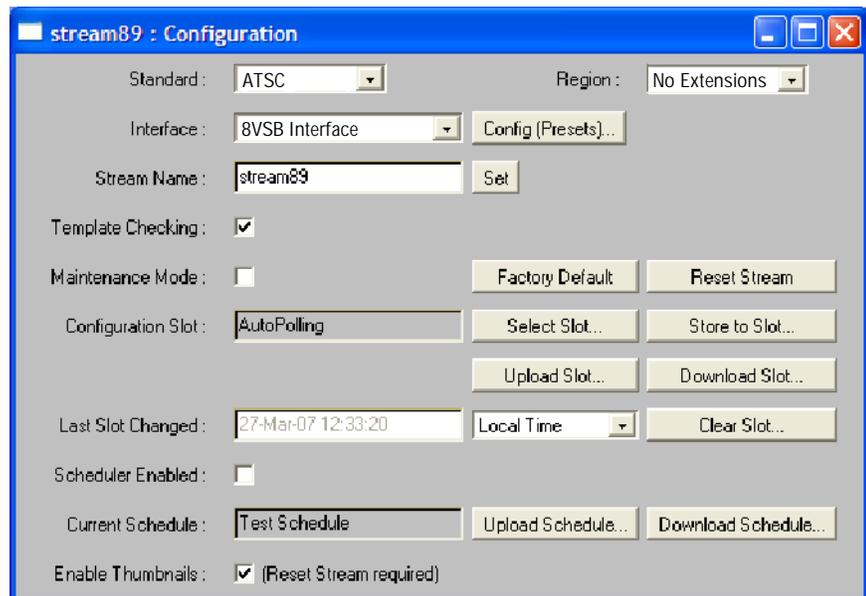

Figure 11: Configuration screen
7. In the Stream view, click the **Config** button to open the Configuration screen (see Figure 11).